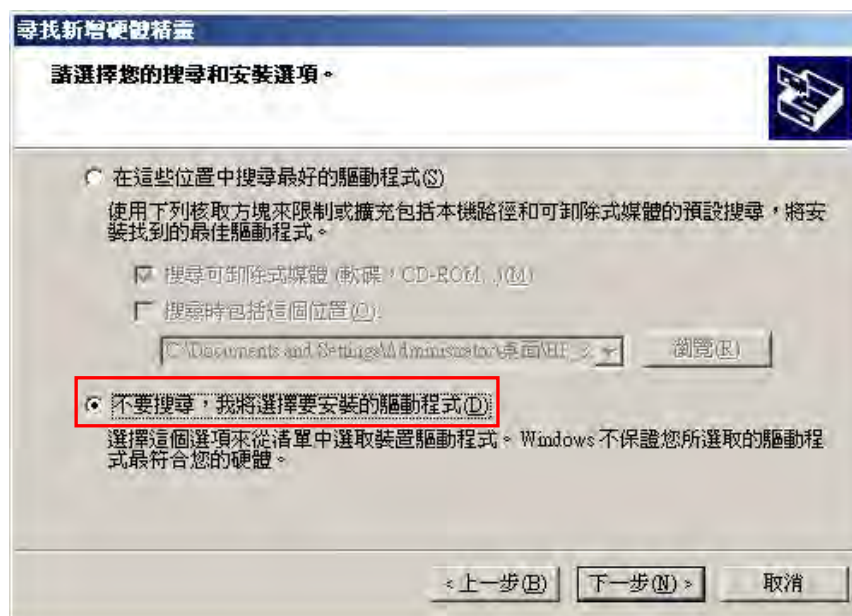

Figure 2.27
As shown in Figure 2.27, the system asks you to choose your search and installation options. Choose "Don't search. I will choose a driver to install (D)" then click on "Next" to continue.